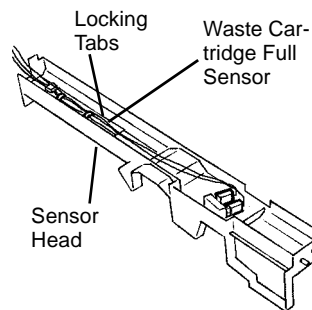

Figure 2 Removing Waste Cartridge Full Sensor
5. Remove Full Toner Sensor (Figure 2).